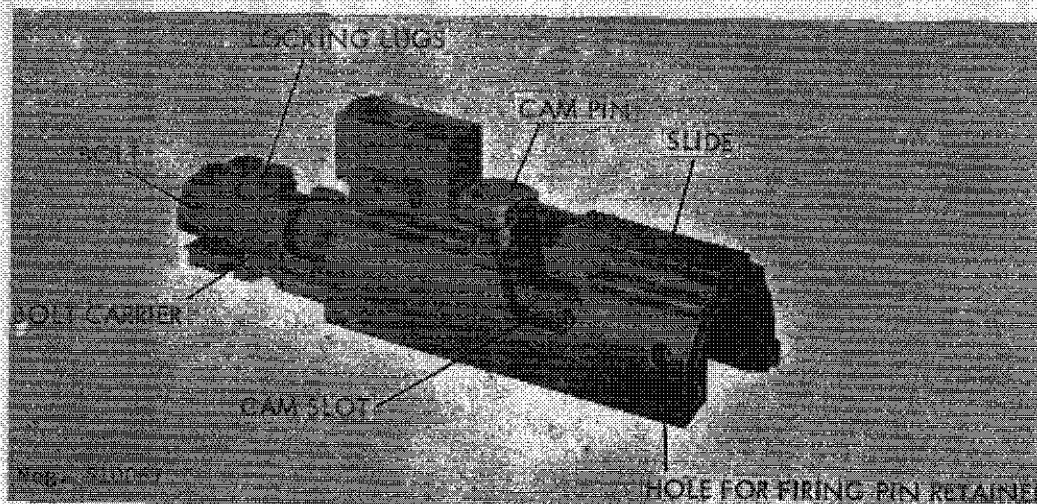

Figure 68. C.A.L. bolt.
d. Push the bolt fully into the bolt carrier (fig 68). Use a small punch or a nail to push the firing pin retainer out from left to right. Point the bolt upward and catch the firing pin as it falls free. Remove the cam pin (fig 68). Pull the bolt and carrier forward from the slide, then twist the bolt until it can be pulled forward out of the bolt carrier. Slide the carrier rearward in the slide (fig 68) until the bolt parts separate.
the carrier and twist the bolt until the lug on its side enters the bolt carrier. When the bolt enters the carrier, again twist the bolt so that the lug enters its recess on the top of the slide. Push the bolt and carrier into the slide until the cam pin hole in the bolt aligns with the cam slot of the slide (fig 68). Insert the cam pin. Insert the firing pin, insuring that the cam on the firing pin head is upward. Push the bolt and carrier fully into the slide and, after fully seating the firing pin, insert the firing pin retainer from right to left.
b. When the piston is driven rearward, the slide moves rearward. After short travel, the cam cut in the slide contacts the cam pin (fig 68). Continued movement of the slide causes the cam pin to rotate on the cam; this rotation causes the bolt to rotate in the bolt carrier. The firing pin does not rotate with the bolt and, as the bolt rotates, a cam on the end of the bolt causes the firing pin point to retract into the bolt.
c. As the bolt rotates, the locking lugs (fig 68) (formed as a segment of a screw) unscrews from the locking bushing. The powerful camming action, resulting from the unscrewing, causes the bolt to move slightly rearward; the extractor, moving the bolt, loosens the fixed cartridge from the chamber walls. When the bolt is fully disengaged from the locking bushing, the slide strikes the bolt carrier and starts the bolt carrier and bolt rearward. The extractor pulls the fired cartridge from the chamber and holds it to the bolt until the ejector strikes the case and expels it through the ejection port.